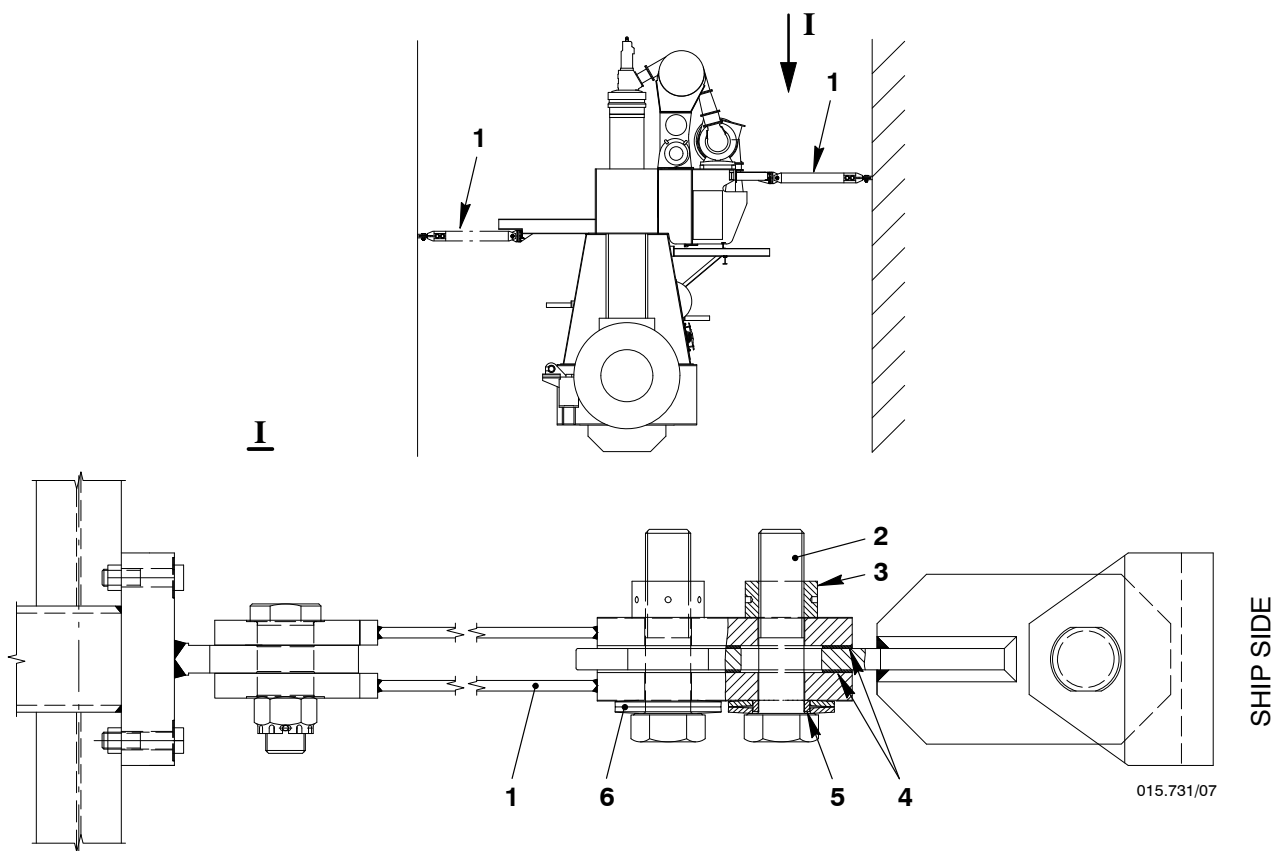

Fig. 1
The engine stays (see Fig.1) are related to the design of the ship. The engine stays are installed as follows:
- 1) Clean the threads of the bolts (2, Fig.1) and the seating surfaces.
- 2) Apply Molykote paste G to the threads of the bolts (2).